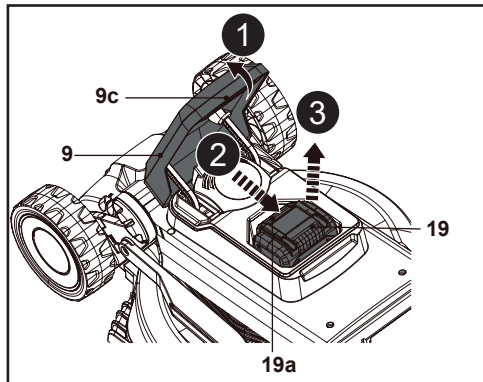

Fig. 7
1. Hold the recess handle (9c) and open the battery compartment cover (9) (Fig. 7, step 1).
2. Press down the release button (19a) to unlock the latch of battery pack (19) (Fig. 7, step 2).
3. Slide out the battery pack (19) from the battery compartment (Fig. 7, step 3).
4. Close the battery compartment cover (9).